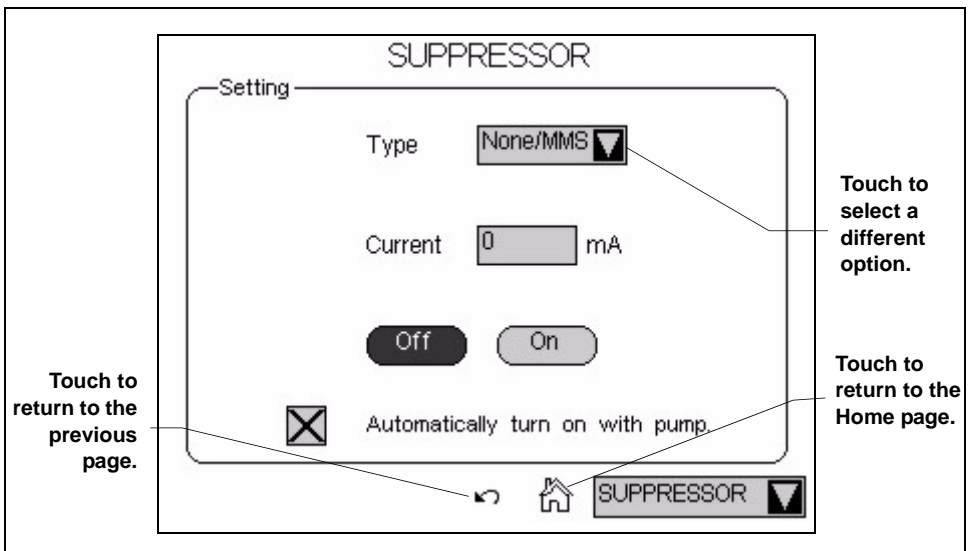

Figure B-4. Suppressor Page
- Touching a page name on the menu of pages displays the selected page. For example, touching **SUPPRESSOR** displays the **SUPPRESSOR** page (see Figure B-4).